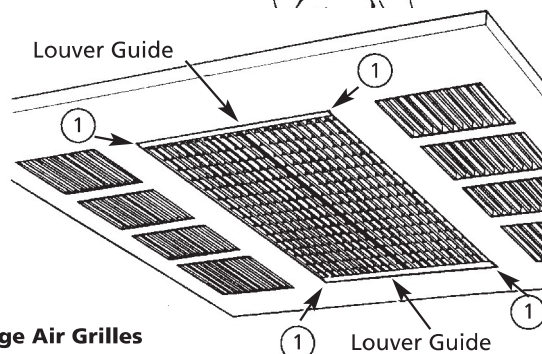

Figure 12 - Installation of Discharge Air Grilles
**⚠ WARNING** To prevent the discharge grille guides from falling, the guides must be fitted (locked) in position as shown in Figure 12.